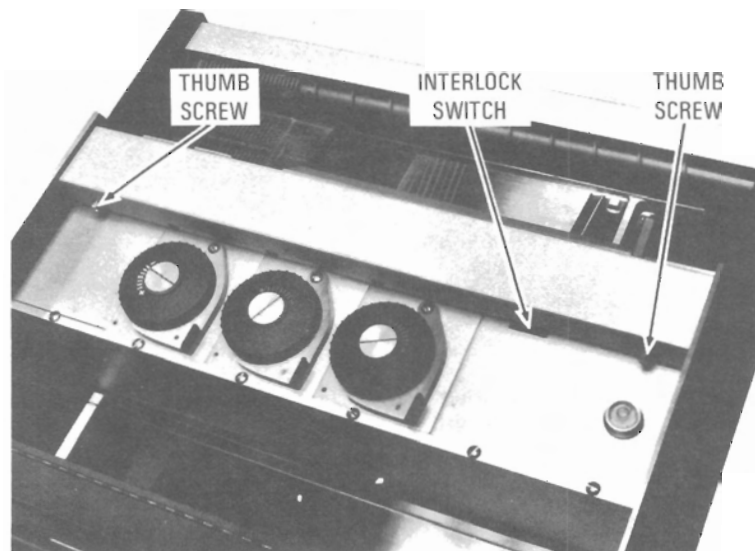

Figure 6-1
3. Loosen the two thumb screws and carefully raise the front panel so the back trough is completely exposed and easily accessible (see Figure 6-1). Hold panel in raised position until cleaning is completed.